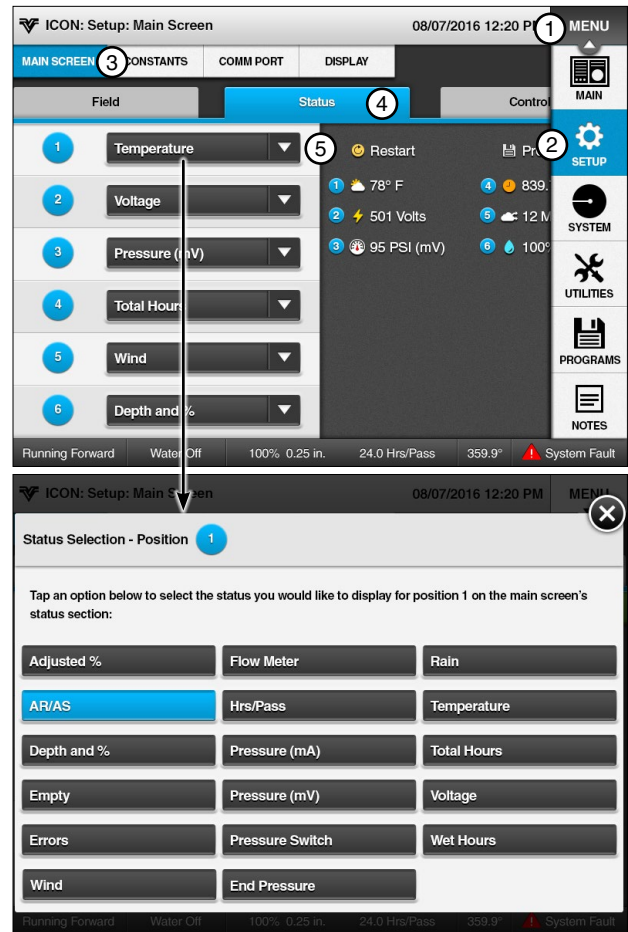

Figure 13-1 1. Menu 4. Status
1. To set the Main Screen status lines, push **Menu**, **Setup**, **Main Screen**, and **Status** to display the status screen. Refer to Figure 13-1.